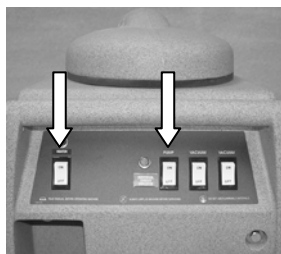

Fig. 4
3. Turn on heater and pump for approximately 6 to 8 minutes to allow heat exchanger to reach its maximum temperature (Figure 4).